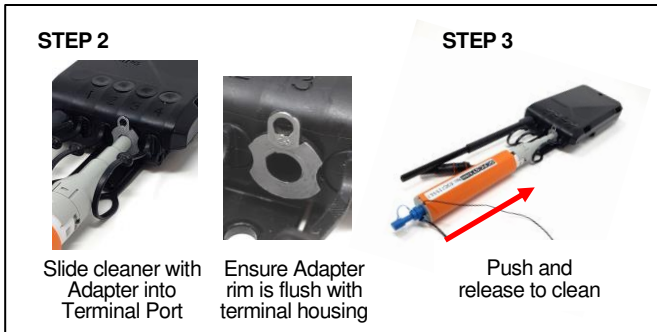

Figure 4. Cleaning Pushlok terminals
- ② Insert the cleaning tool into the terminal housing's port until the adapter's rim is flush with the terminal housing, Figure 4.
- ③ Push the cleaning tool fully to clean the internal connection.